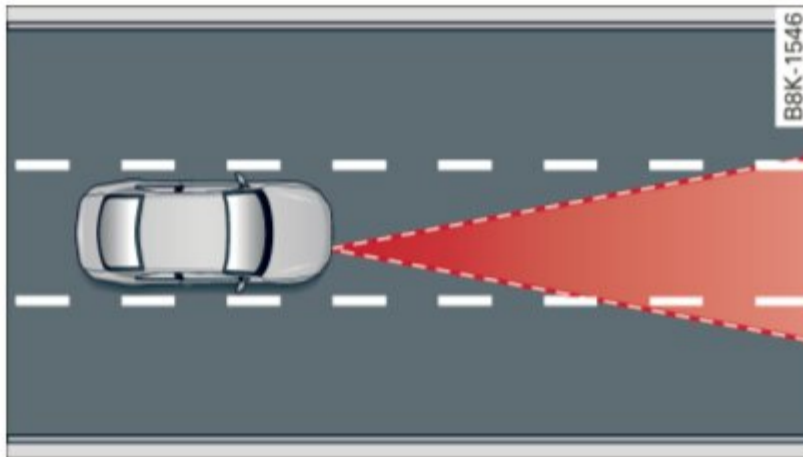

Fig. 93 Detection range
- Objects can only be detected when they are within sensor range ⇒ *page 92, fig. 93*.